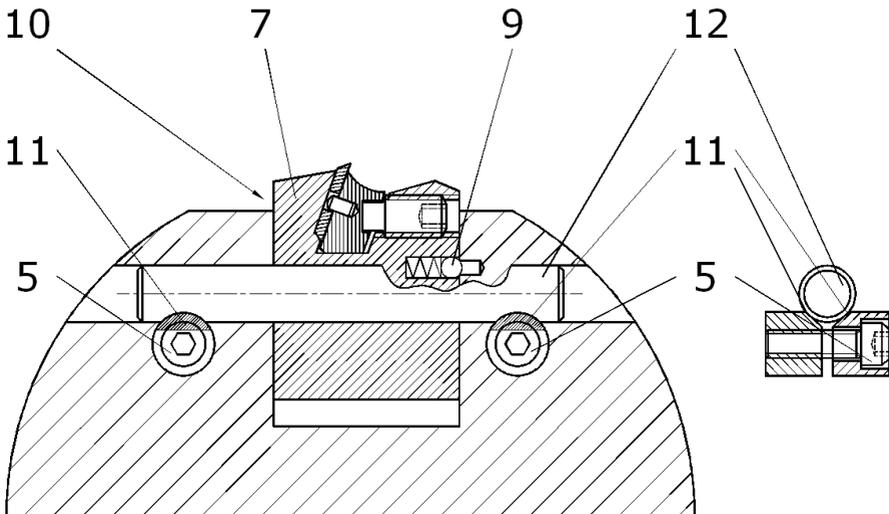

Fig. 3
Swivel elements with fix serration for cutterheads type 1 to 3 (see Fig. 3 and 4):
2. Loosen screws (5) with an Allen key only so far until the swivel element (7) can be turned.
3. Set swivel element to the desired angle position. Consider thereby the dial on the adjustment scale (10). Engagement occurs either via a serrated ring (8) or via a ball pressure spring (9).
4. Make sure that before tightening the screws (5), the clamping surfaces (11) of the clamping elements are aligned parallel to the spindle (12); (see Fig. 3).
serrated adjustment by a ball pressure spring (see Fig. 3), all intermediate angles can be set via the adjustment scale (10).